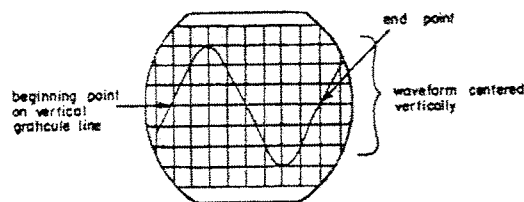

Fig. 8 Sine wave period measurement
4. If accurate waveform frequency or period measurement is to be made, center the waveform vertically. The complete period must be measured from one point or the beginning of the waveform to the same point beginning the next waveform. (see Fig. 8)
For example if the VOLTS/DIV setting for Fig. 8 is 0.1mS/DIV then the period is 8 DIV/cycle times 0.1mS/DIV = 0.8mS/cycle. The frequency is then